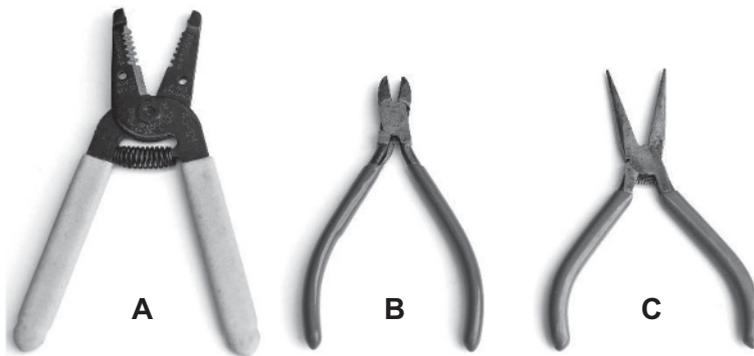

Fig. 11.2
(b) Fig. 11.2 shows three tools used when constructing circuits.
- (i) State the purpose of each tool shown in Fig. 11.2.